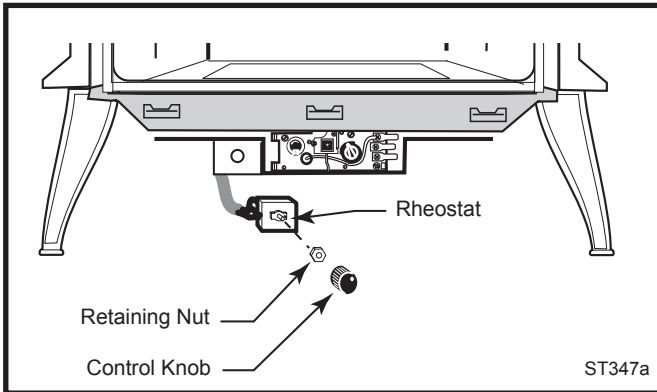

Fig. 13 Attach rheostat to control panel. Valve may look different.
11. The rheostat control switch attaches to the left side of the valve bracket at the front of the stove. (Fig. 13)